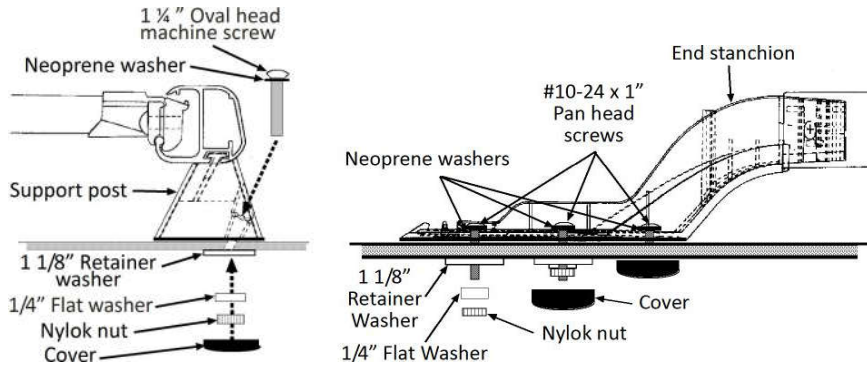

Figure 2
Insert #10-24x1 1/4" oval head machine screws through post and roof. Install retainer washer, stainless steel flat washer, NyLok nut, and cover inside cap as detailed in Step 9, illustrated in the drawing (Fig. 2, Page 7). Keep in mind that the fasteners on these support posts will mount at an angle, not vertical as with all other fasteners.
9. Installing outside hollow-core area or a roof thickness under 1/2 ": (Two people required for this step; See Figure 2, Page 6) Insert #10-24x1" pan head machine screws down through end supports, and 1 1/4" oval head machine screws through center post (when applicable). Place 1 1/8" retainer Washer against inside of roof with flange side down, followed by 1/4" Stainless Steel flat washer and #10-24 lock nut. Tighten securely. **Do not overtighten,** as excessive screw torque may damage fiberglass and/or force neoprene washers from under screw heads.